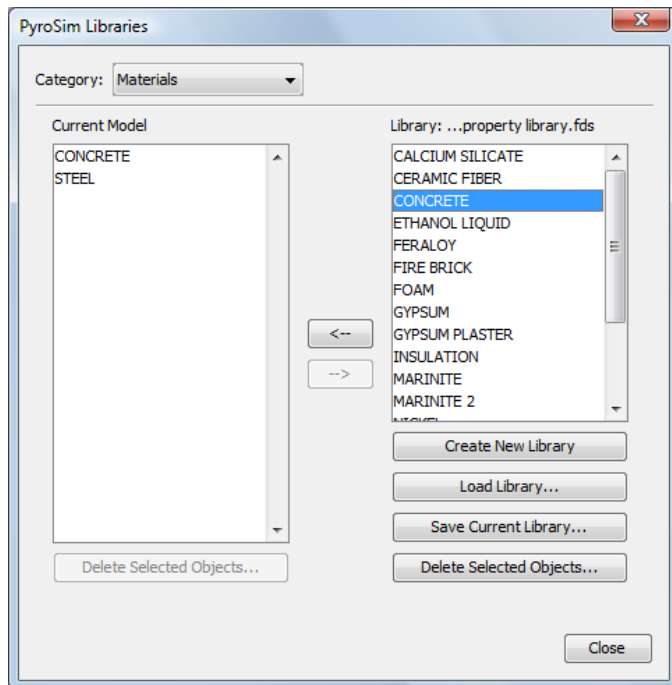

Figure 6.5. Copy the material data from the library to the model
3. Use the arrow to copy the **CONCRETE** and **STEEL** materials from the library into the **Current Model**, Figure 6.5.